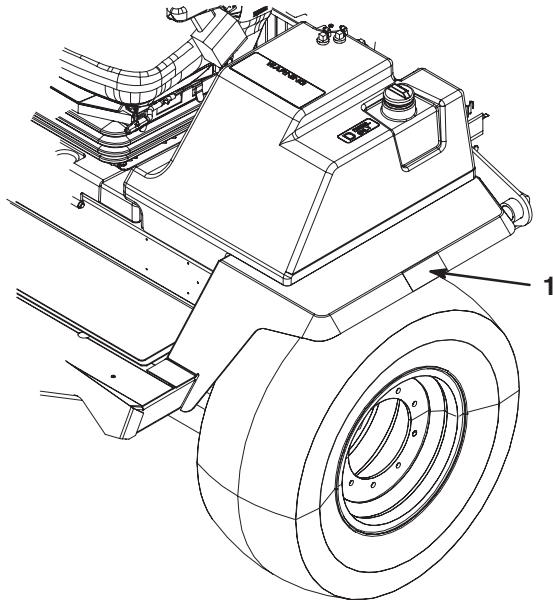

Figure 5
1. Affix a reflective tape strip onto the center of each fender lip, positioning as shown in figure 5.